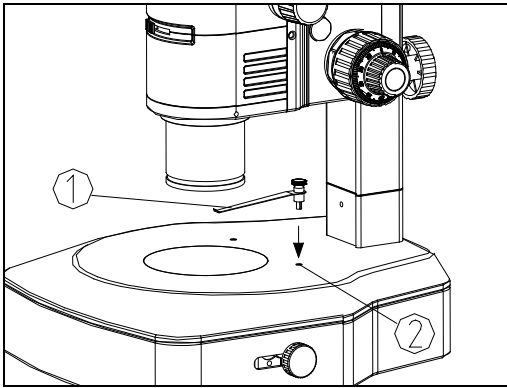

Fig.10
2. Insert the clip (1) into the two holes of the base (2) as shown in Fig. 10.